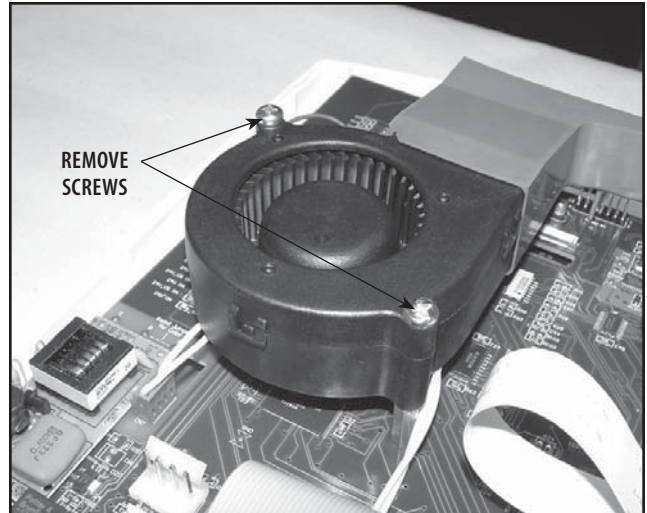

FIGURE 6.22
2. Using a #1 Phillips Screwdriver, remove the Two Fan Retaining Screws securing the Fan to the System Top. See Figure 6.22.